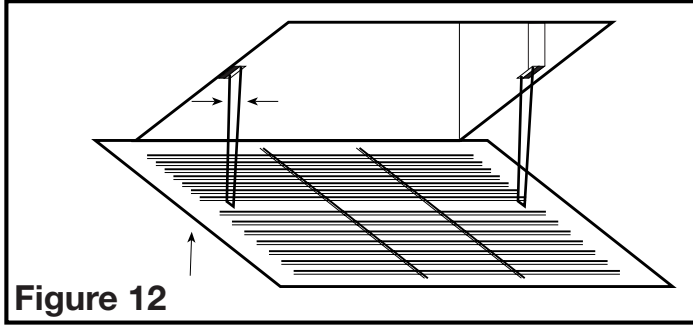

Figure 12
- 4" Inline Kits:** Install the grill into the inlets by squeezing the two ends of the springs together and installing them up into the slots of the fan. Push the grill up into position (Figure 12).